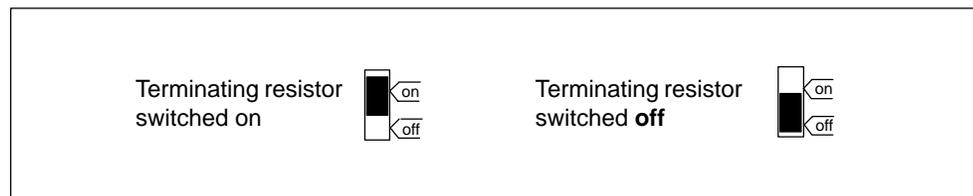

Figure 5-9 Bus Connector (6ES7 ...): Terminating Resistor Switched On and Off
3. If the bus connector is installed at the start or end of a segment, you must switch on the terminating resistor (switch setting "ON") (see Figure 5-9).